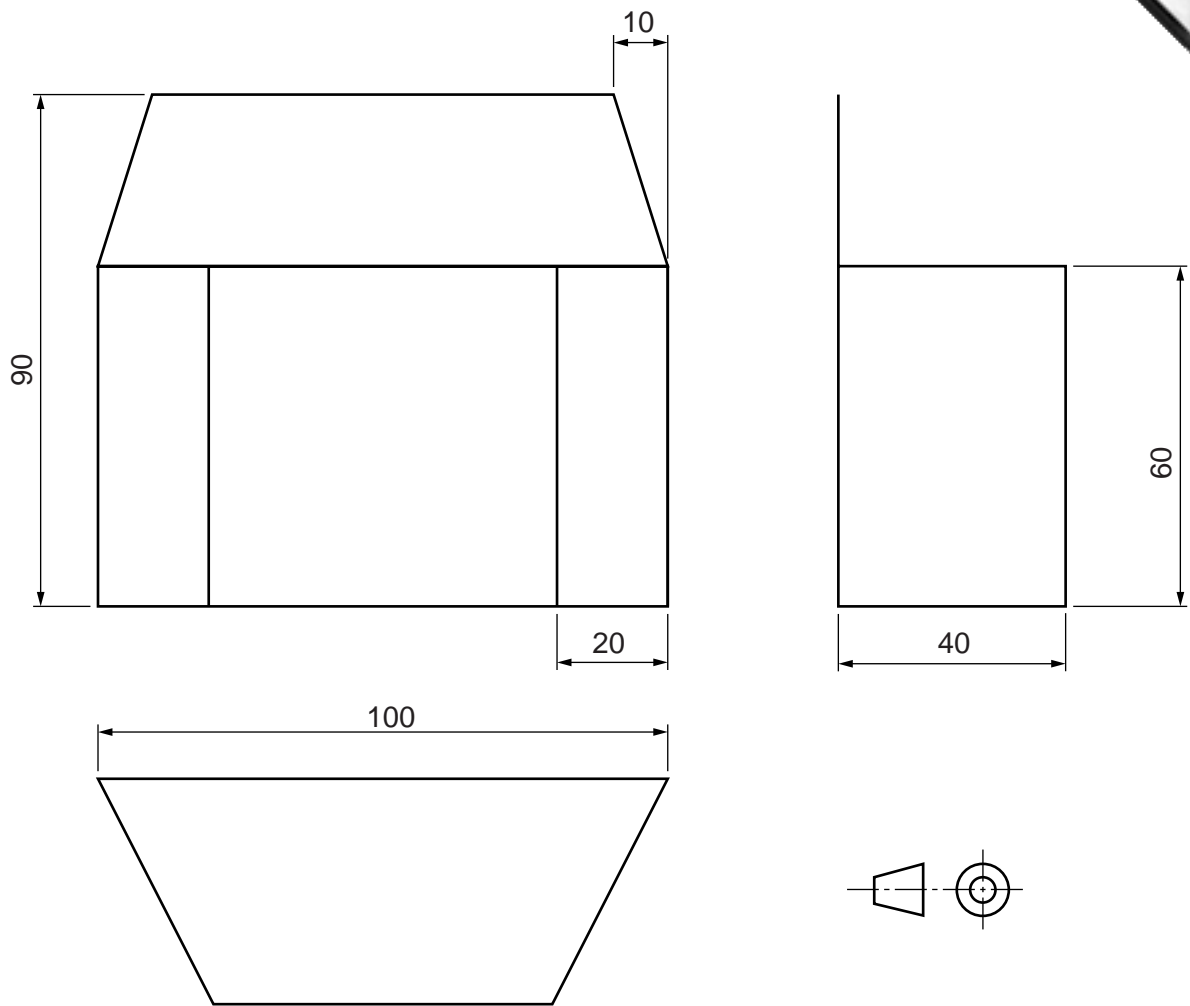

Fig. 7
- 9 Fig. 7 shows the packaging for a printer ink cartridge.